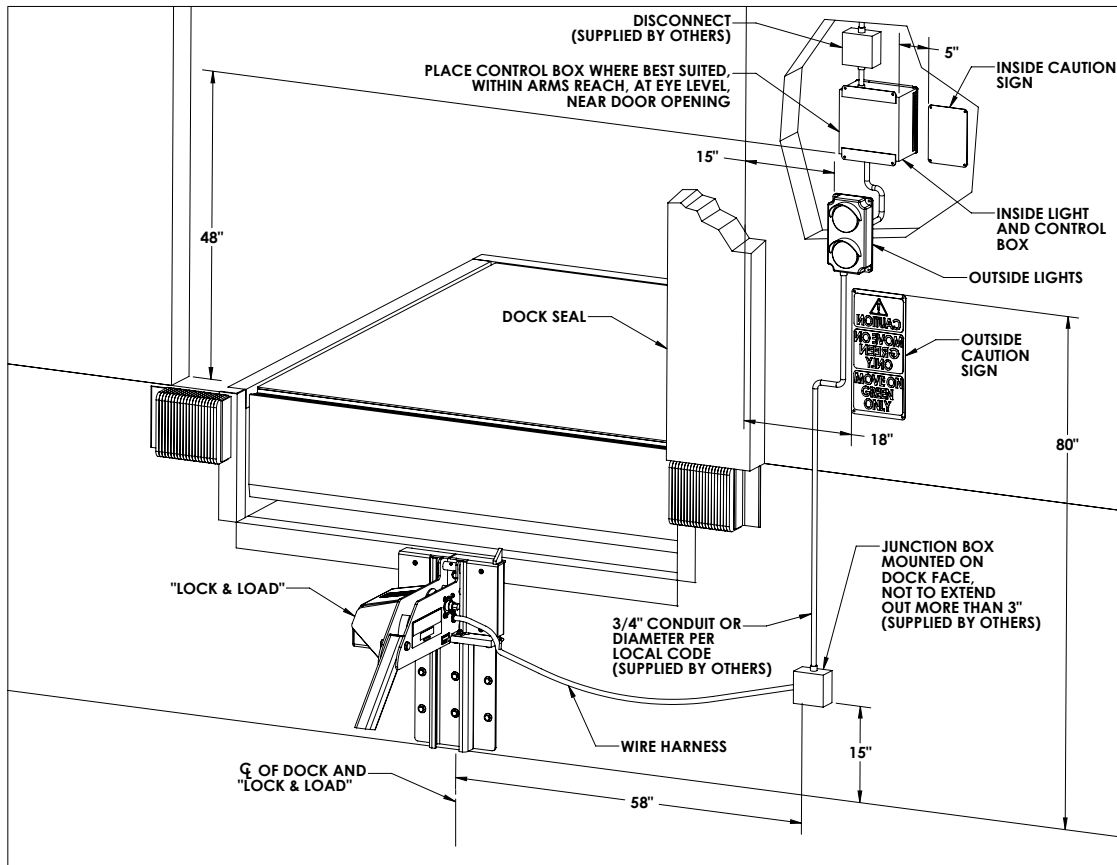

FIGURE 2—SUGGESTED COMPONENT LOCATION
There is one (1) driver outside caution sign and one (1) operator inside caution signed supplied with each NOVA Lock & Load™ vehicle restraint. (Mounting hardware supplied by others.) Mount outside sign as shown in Figure 2. Mount inside sign next to control box. Attach placard to control box with zip tie supplied or mount next to control box. Install all signs provided.